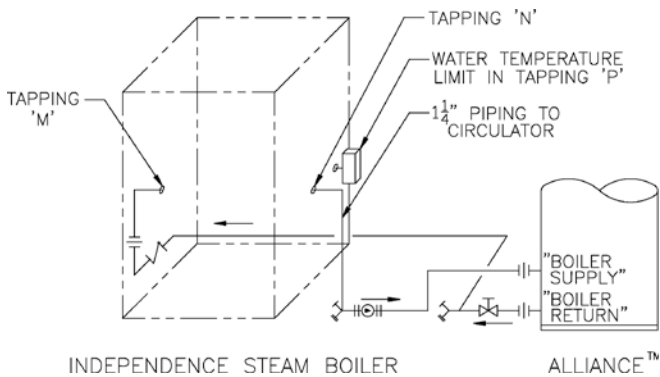

Figure 27: Recommended Piping for Indirect Water Heater
1. Steam. See Figure 27 for piping recommendations.